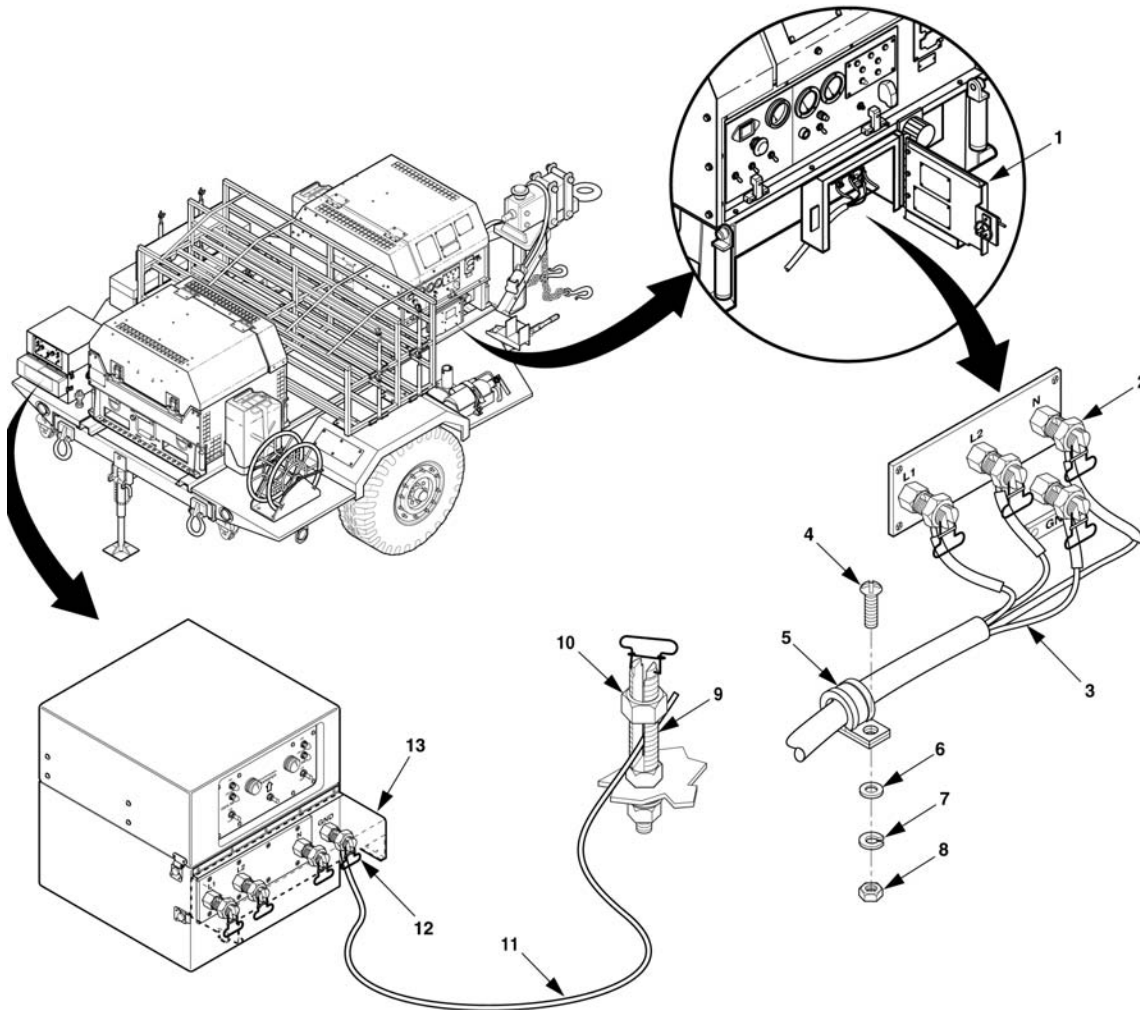
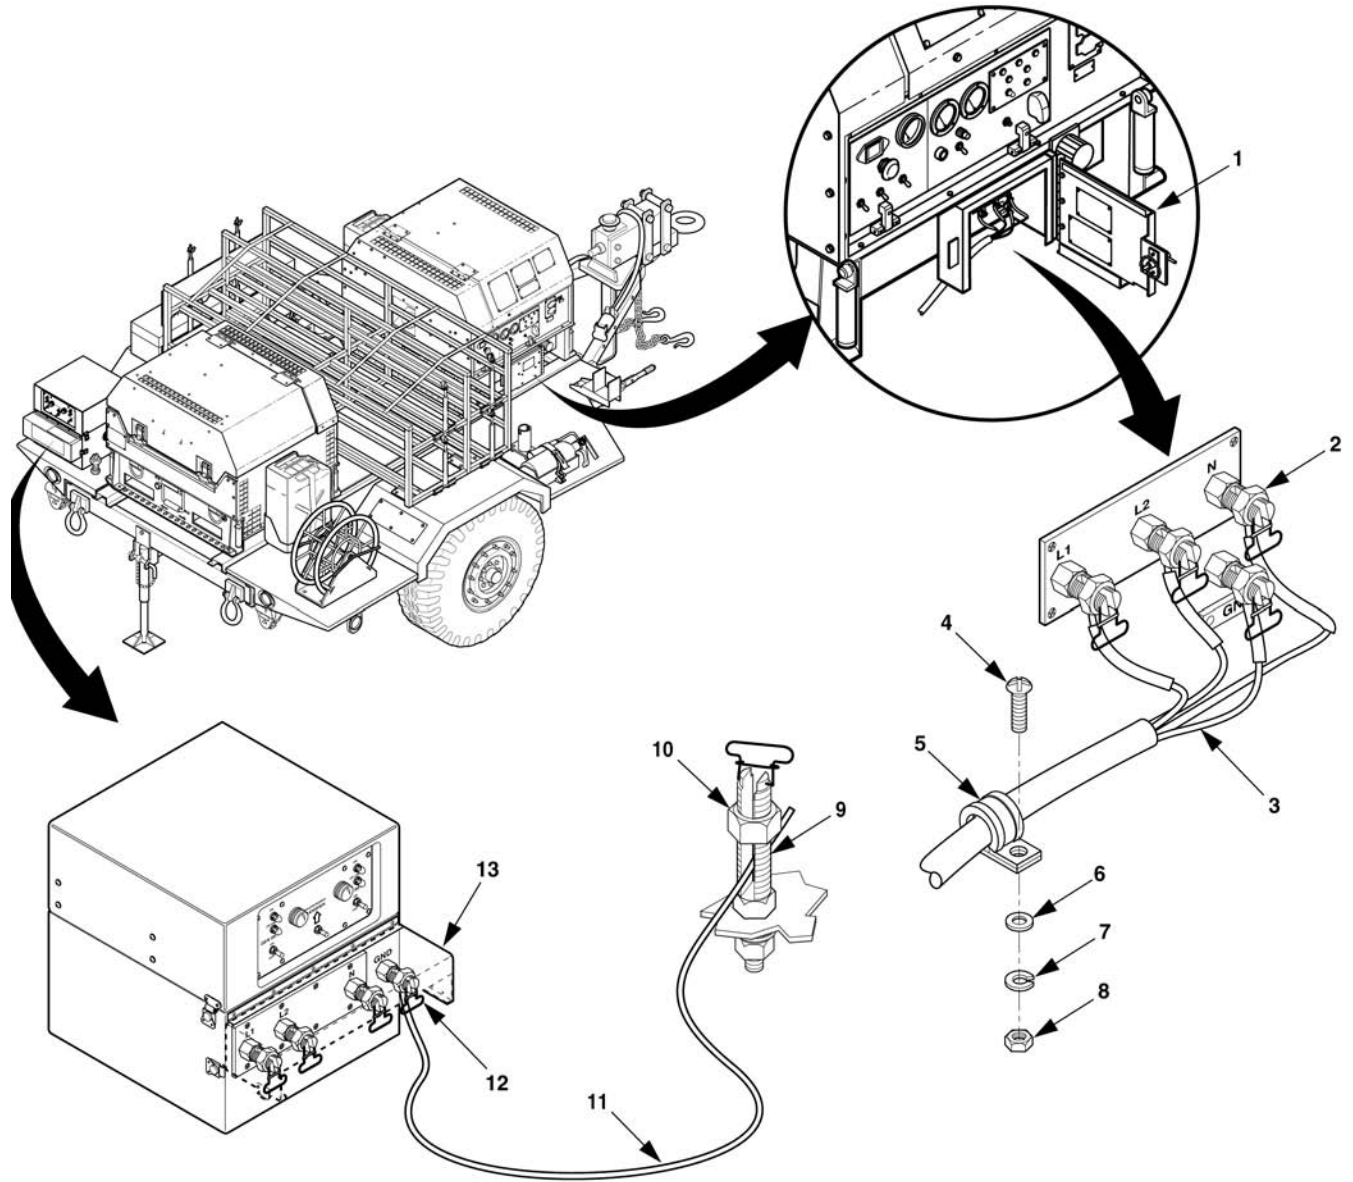

Figure 4-1. Installation of Power Cables
Figure 4-8. Disconnect Power Cable from Generator Set.
4-2.2.1 Assembly of Power Plants AN/MJQ-42 and AN/MJQ-43. Refer to Figure 4-1 and assemble the AN/MJQ-42 and AN/MJQ-43 Power Plants as follows:
AN/MJQ-42 is illustrated in Figure 4-1. Installation of power cables on AN/MJQ-43 is identical.
- a. Open load terminal access door (1, Figure 4-1).
- b. Connect power cable W1-1 (W1-4 for AN/MJQ-42) leads (3) to generator set load terminals (2) as follows:
- (1) Connect lead marked L1 to generator set load terminal L1.
- (2) Connect lead marked L2 to generator set load terminal L2.
- (3) Connect lead marked N to generator set load terminal N.
- (4) Connect lead marked GND to generator set GND terminal.
- c. Position cable (3) inside two clamps (5) and secure clamps (5) to trailer using two screws (4), flat washers (6) lock washers (7), and nuts (8).
- e. unscrew nut (10).
- f. Position ground cable (11) through ground stud (9).
1. To disconnect electrical leads and ground lead from generator set refer to Figure 4-1 or Figure 4-8 and reverse the procedures of connecting the power cables as listed in paragraph 4-2.2.1.